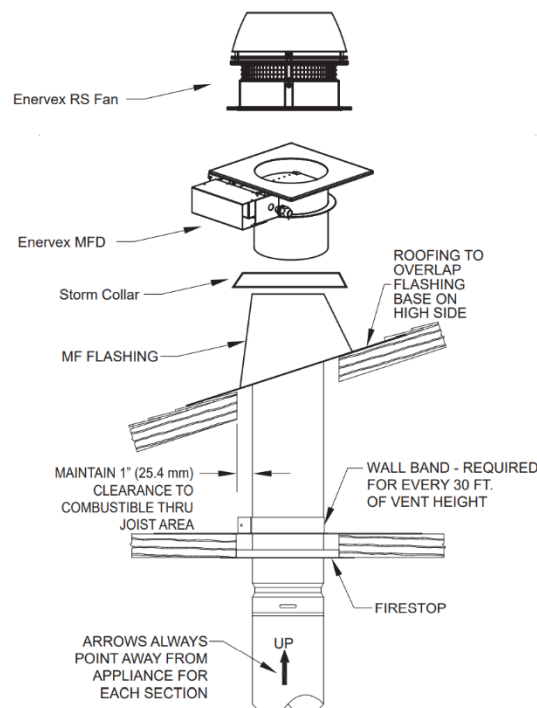

FIGURE 20
- 8) Where the B-Vent installation penetrates the roof, begin by cutting a hole that is 2 inches larger than the outside diameter (OD) of the B-vent pipe's outer casing. The B-Vent pipe is to be centered in this opening. Above the roof, a flashing is required to maintain the one-inch (25.4 mm) clearance to the combustibles of the roof. Installation of a storm collar allows water to drain over the flashing (**Figure 20**).